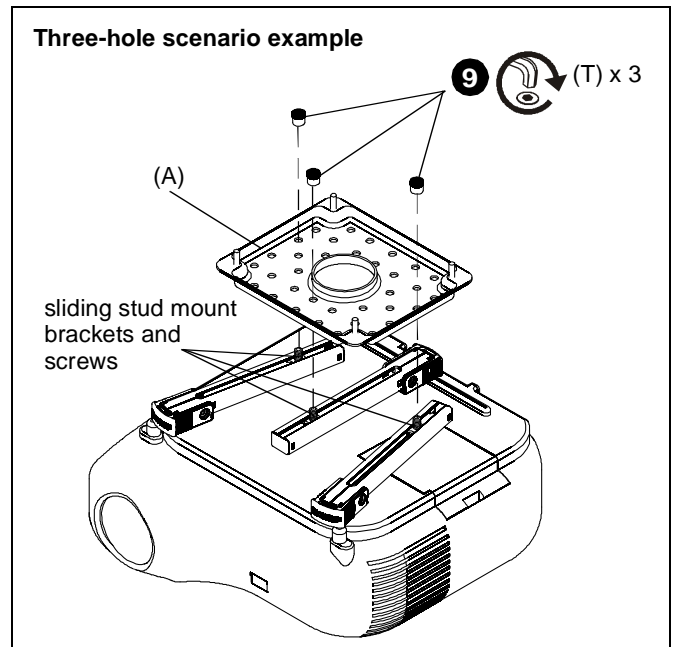
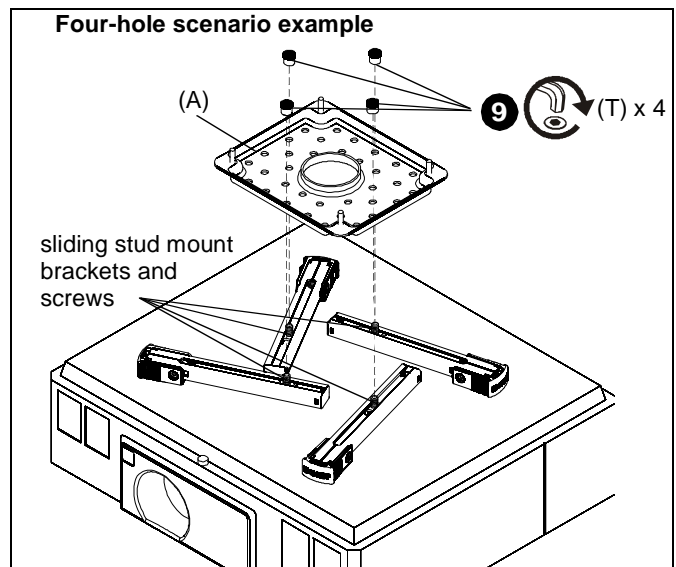

Figure 6
Figure 7
- Maneuver legs so that sliding stud mount brackets and screws are towards the middle of the projector. (See Figure 6) and (See Figure 7)
- Position sliding stud mount brackets and screws so that SLBU or SLMU main plate (A) can be evenly mounted to legs. (See Figure 6) and (See Figure 7)
- Use 1/4" hex key (U) to secure Allen nuts (T) to screws on sliding stud mounts. (See Figure 6) and (See Figure 7)